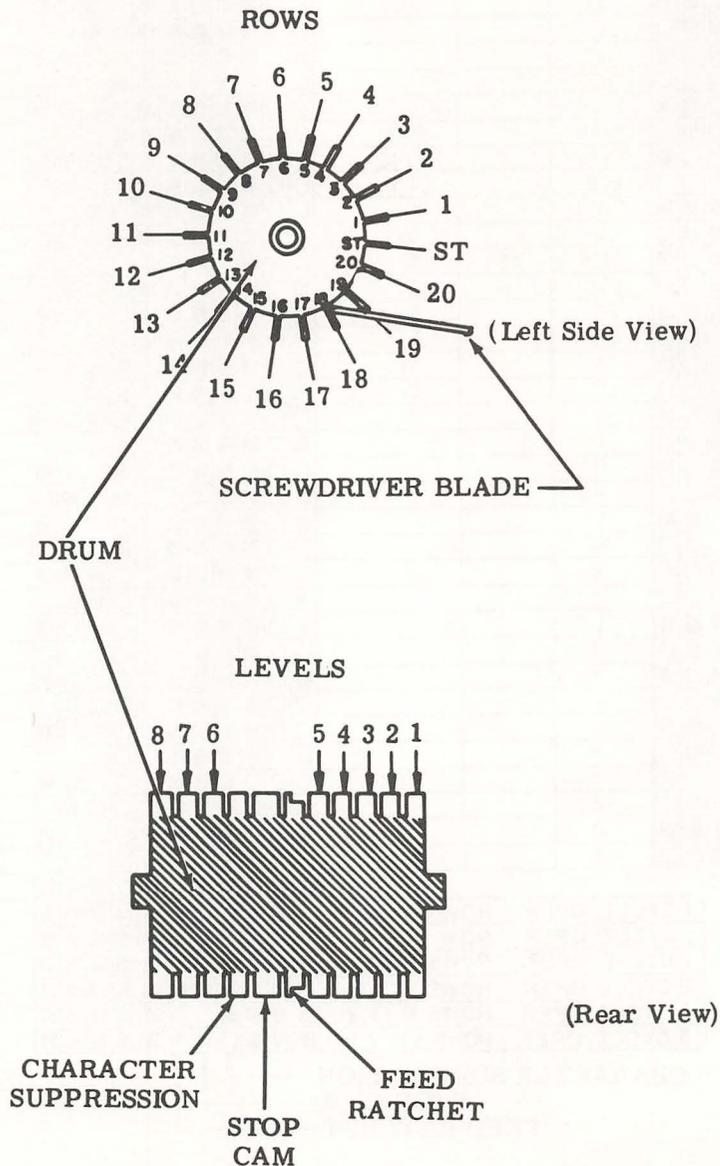

Figure 4 - Answer-Back Drum
2.05 Code the answer-back drum in a counter-clockwise direction (Figures 4 and 5), starting with row no. 1.
2.06 A particular character is coded by either retaining or removing tines within a row, as illustrated in Figure 4. A tine may be removed by either of the two following methods:
(a) Method 1: Place the end of a screwdriver blade at the base of a tine in the row previously coded. Press the side of the blade against the top of the unwanted tine until the tine breaks off. Figure 4 illustrates this method — pressure applied to base of